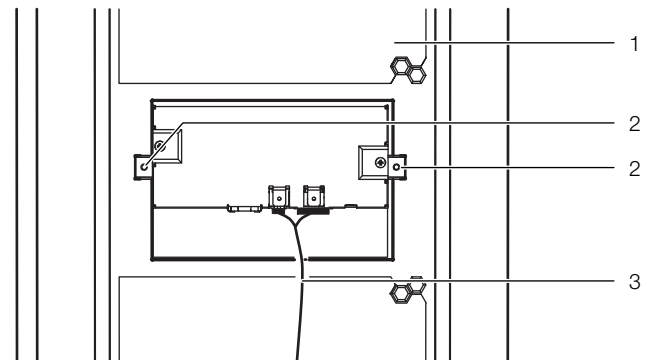

Fig. 59: Securing the graphic display
- Push the display into the cut-out from the outside until it is in contact with the door (fig. 59, item 1) of the Liquid Cooling Package at the front.
- Tighten the two assembly screws (fig. 59, item 2) from the inside (IS 2,5).